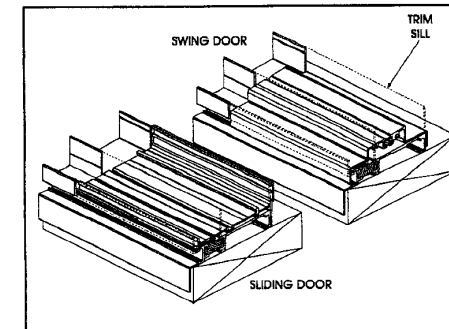
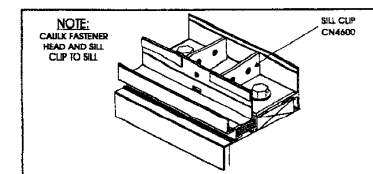

FIGURE 7-6
FIGURE 7-8
7.6 With the entire sill perimeter laid out and all door cutouts made, the sill may now be permanently fastened to the foundation after running two/three beads of caulk along the sill's underside for its entire length. The sill should be drilled for the type of fasteners being used and the holes should be located a minimum of 6" away from the glazing bar mounting locations. Use minimum 3/8" diameter for fastening to wood. A masonry anchor (not supplied) must be used when fastening the sill to masonry. Seal fasteners heads with caulk. The sill flashing must have a carefully positioned "butt" fit and be properly caulked (refer to **Paragraph 7.3.3** and **Figure 7-6**). See **Figures 7-8**.